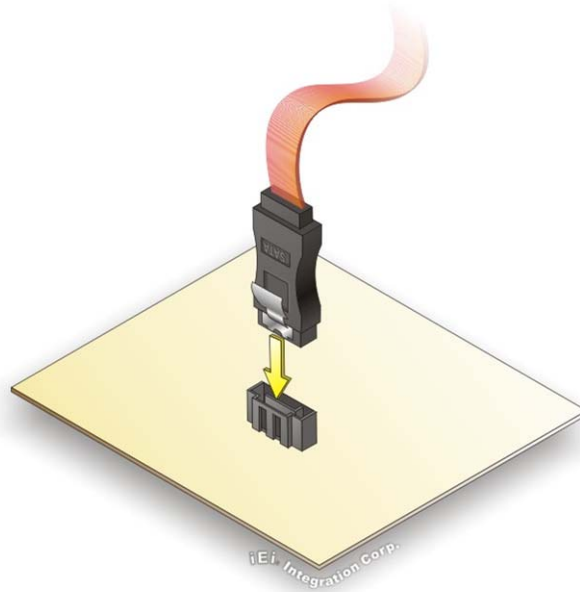

Figure 4-5: SATA Drive Cable Connection
Step 2: Insert the cable connector. Insert the cable connector into the on-board SATA drive connector until it clips into place. See Figure 4-5.